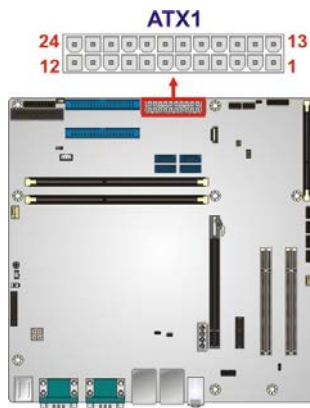

Figure 3-3: ATX Power Connector Location
- CN Location:** See **Figure 3-3**